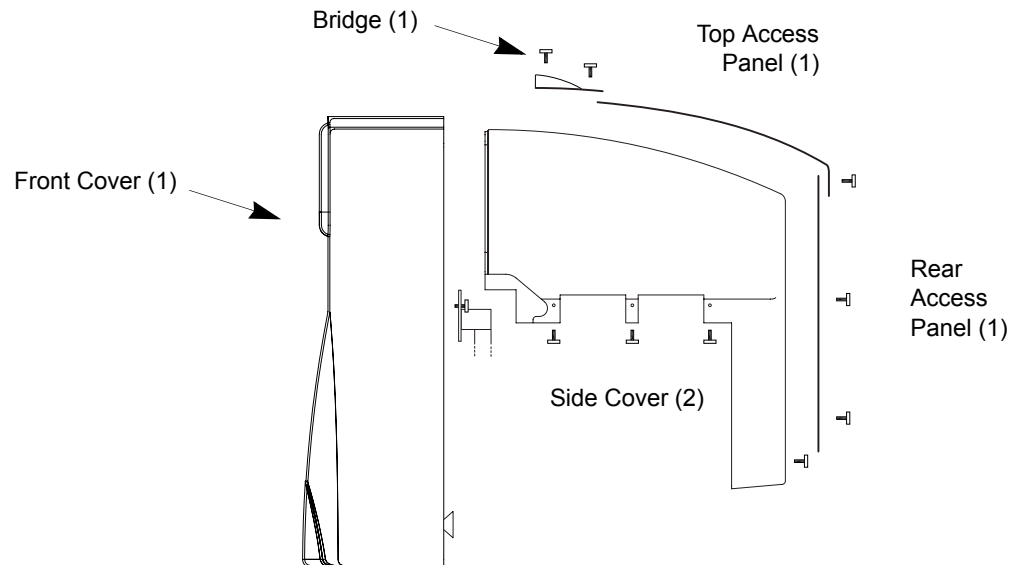

Figure 6-1 Removing the Top Covers
- b. Lift the Front Cover upward, away from the Summit 800; see Figure 6-1.
- b. Remove the Side panels by removing the six side screws (three per side) and two back screws (one per side) that secure the covers in place; see Figure 6-1.